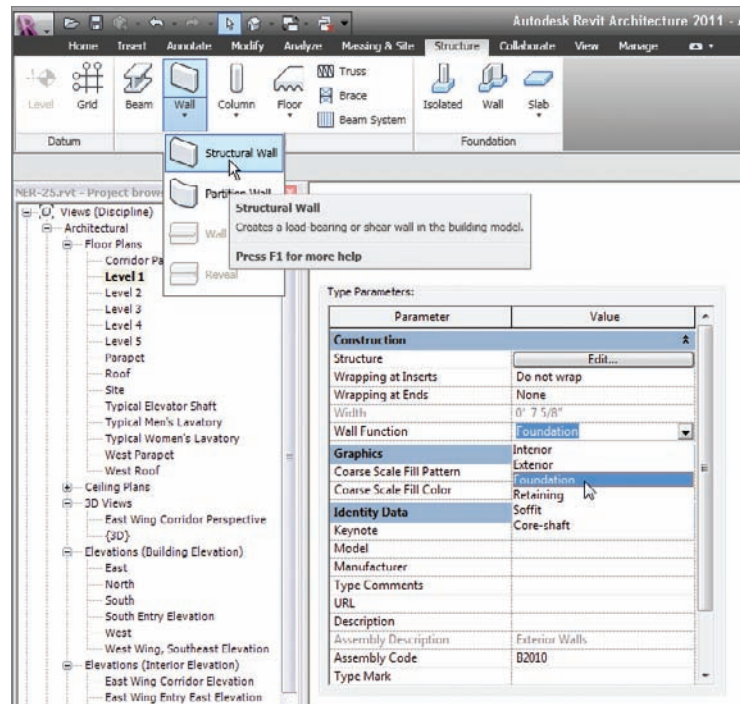

FIGURE 8.48 Changing Function to Foundation
2. Click the Wall > Structural Wall button on the Structure tab, as shown in Figure 8.48.
8. In the Function row, select Foundation from the drop-down list, as shown in Figure 8.48.